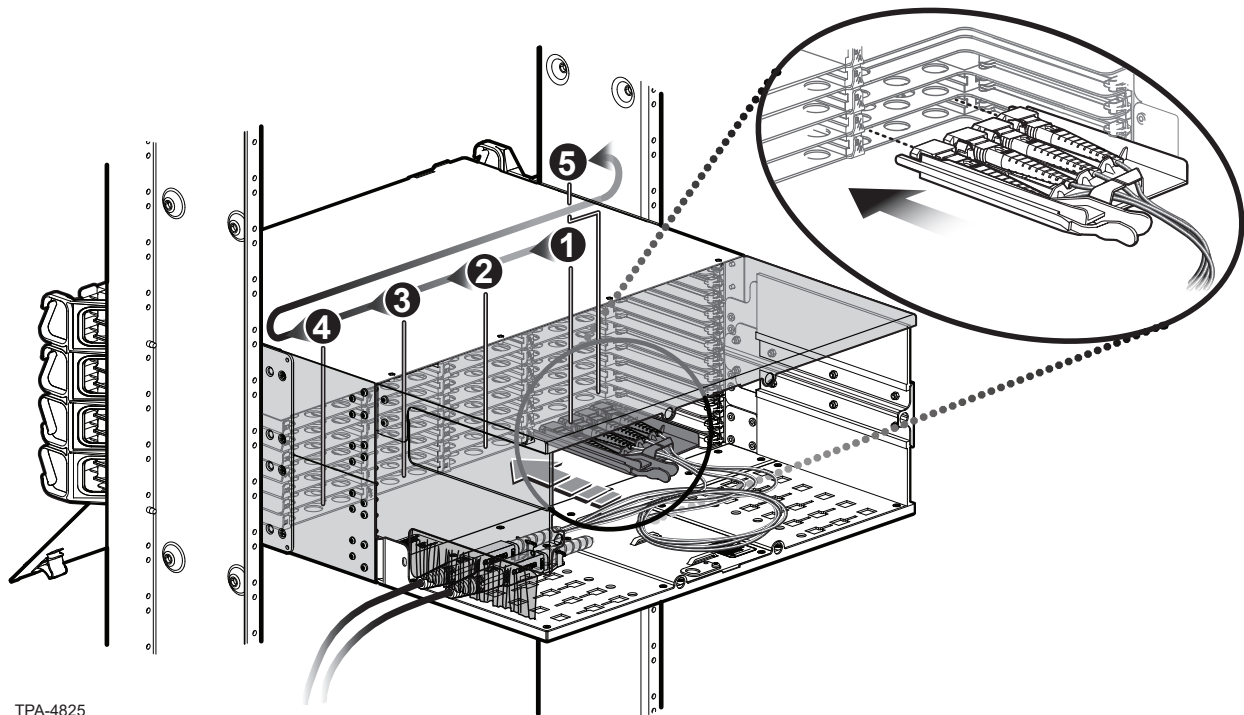

Figure 22 — Insert Adapter Panels into Rear of Housing
Step 4: With a panel fully populated, insert panel from the rear until it locks into place (Figure 22).